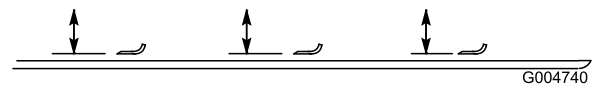

Figure 24
3. Rotate the blade until the ends face forward and backward and measure from the inside of the cutting unit to the cutting edge at the front of the blade (Figure 24).